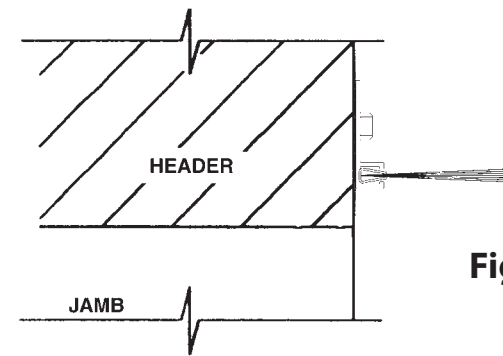

Fig 9
- If lintel baffle is required, install baffle using 1/4" fasteners suitable for the wall material (wood, masonry, steel). Install per Figure 9 with brush aligned 1" above top of guide middle angle.